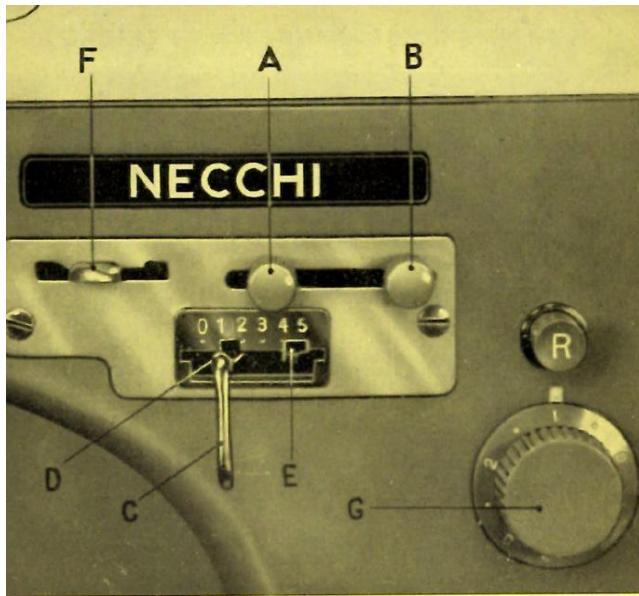

Figure 36
- Needle position lever F (figure 36) – In left notch
- Push button R (figure 36) as explained for sewing in reverse.
- Loosen the 2 buttons A and B (figure 36)
- b) Zig Zag Stitch lever – set at mark 1, also loosen nut B (figure 36) and move it to the right until the index stop is at the extreme right. Then tighten nut B again.
See figure 36 for references to buttons.